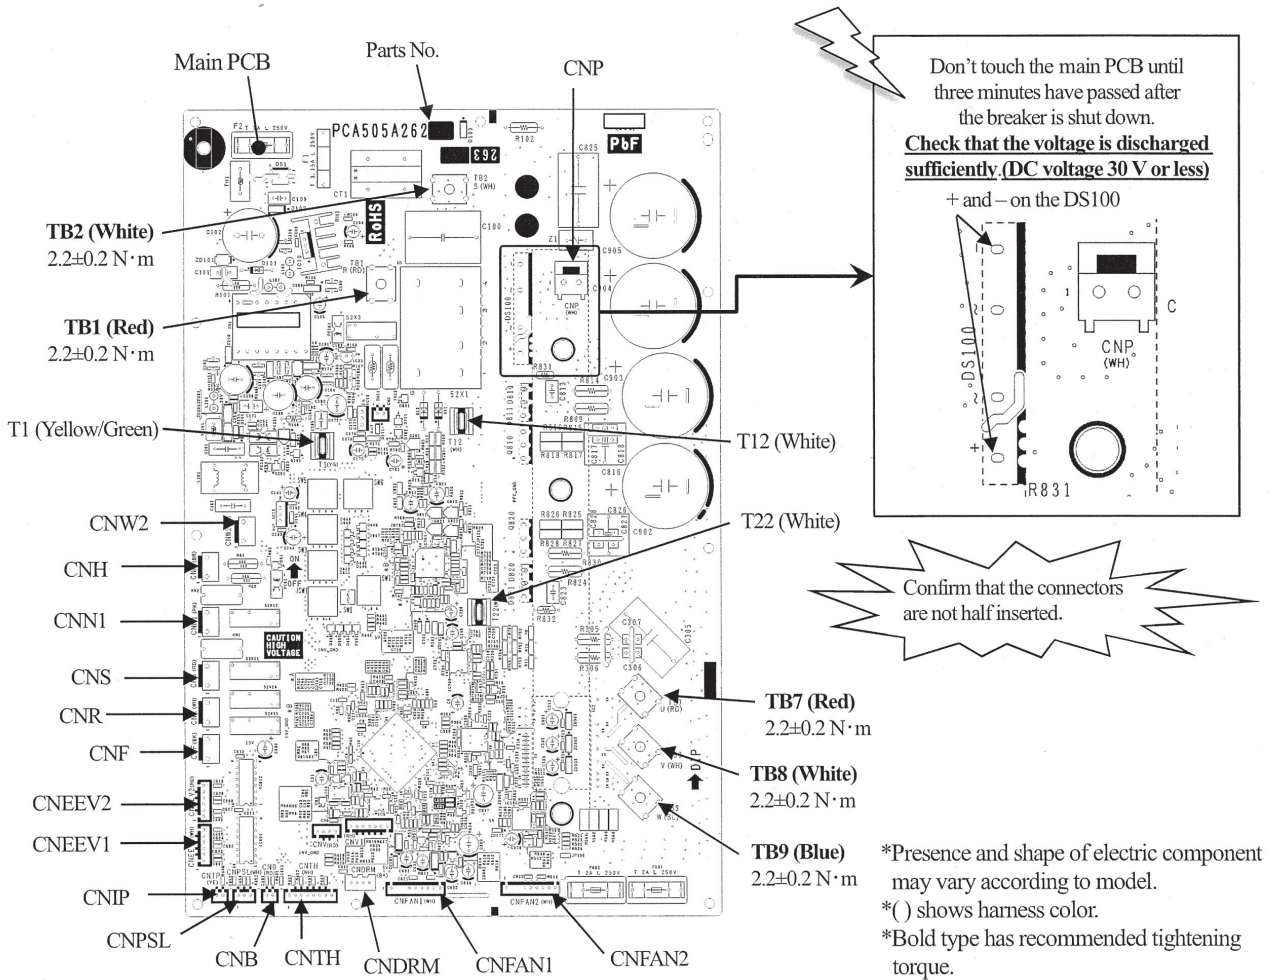

Fig.2 Parts arrangement view of main PCB and voltage measurement points
In the situation that harnesses are connected to main PCB, **be sure to measure voltage (DC)** on main PCB, and **check that the voltage is discharged sufficiently (DC voltage 30 V or less)**. (Refer to Fig.2)
- c) Disconnect the connectors, faston terminals and round terminals from the main PCB as shown in Fig.2.
- b) Reconnect the connectors, fasten terminals and round terminals to the main PCB as before. (Refer to Fig.2)
- b) After the new Main PCB is installed on the control, reconnect the connectors, faston terminals, and round terminals to the main PCB as before. (Refer to Fig.2)